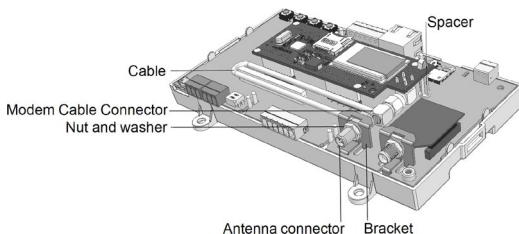

Figure 24: GSM modem on a Firefighter Gateway board
1. Insert the top of the plastic spacer through the opening in the GSM modem, as shown in *Figure 24*.